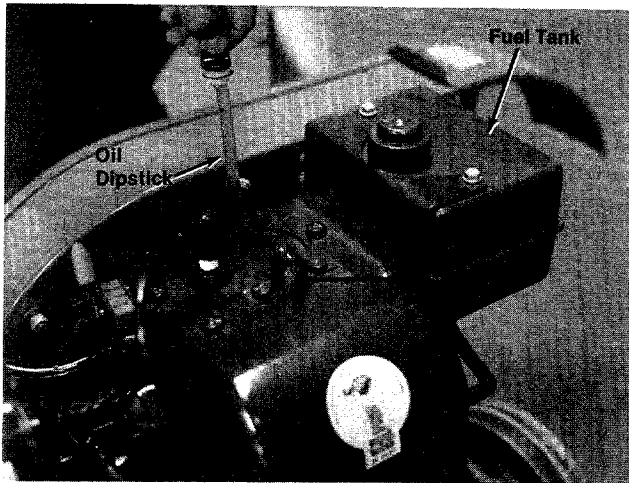

FIGURE 6.
1. Fill fuel tank with fresh regular gasoline. (See figure 6.)
2. Fill crankcase with oil. (See figure 6.)
Position equipment so that engine is setting level. Remove dip stick or oil filler plug (Figure 6.). Pour oil into oil filler tube from which dip stick was removed and fill to FULL mark on dip stick. Do not overfill. After initial filling follow instructions on dip stick. Be sure dip stick is screwed into filler opening as far as it will go when measuring oil level.